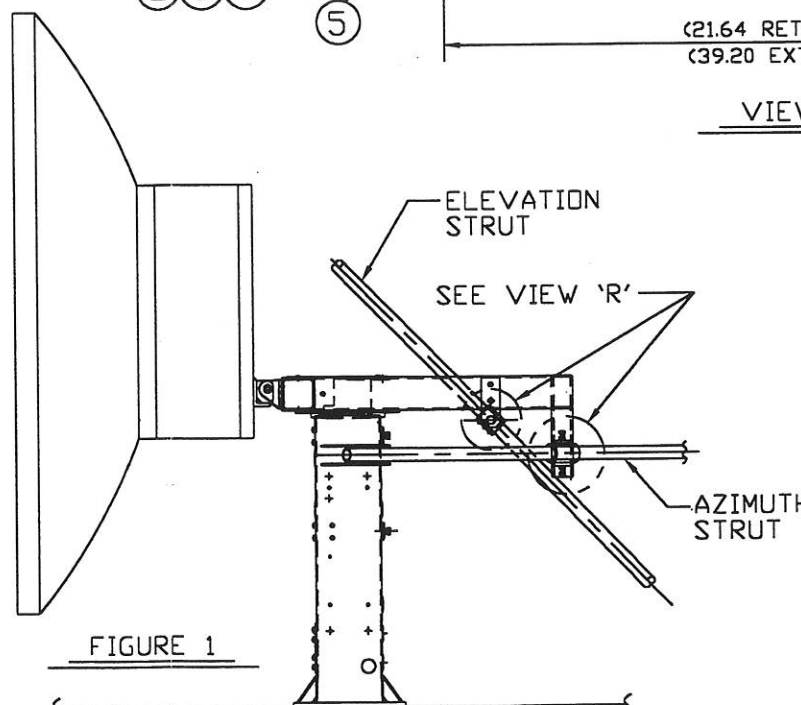

FIGURE 1
- 2.1 REFER TO VIEW 'R' AND FIGURE 1: LOOSELY ATTACH 207882 MANUAL ACTUATOR ASSEMBLY TO EITHER AZIMUTH OR ELEVATION STRUT AS SHOWN USING CLAMP SEGMENTS .25 IN. SCREWS, LOCKWASHERS AND NUTS. POSITION DRAIN HOLE ON ACTUATOR DOWNWARD FOR PROPER WATER DRAINAGE.